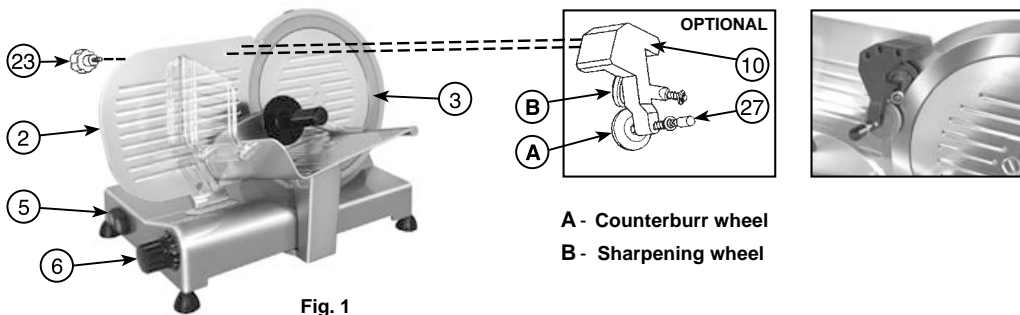

Fig. 1
- Set the movable bulkhead (2) at maximum distance from the blade (3) by turning the graduated knob (6).
- Place the sharpener group (10) on the movable bulkhead (2) as indicated in Fig. 1 blocking it by the knob (23).
- Switch on (5) to activate the automatic sharpening function. If necessary, turn the graduated knob (6) until the grinding stone turns together with the blade.
- Sharpen the blade automatically for about one minute then press the pressure button on the counterburr wheel (27) for two-three seconds, release the button and turn off the motor at the same time.
- After sharpening, remove the sharpener (10) from the movable bulkhead (2) and replace it in its original housing.